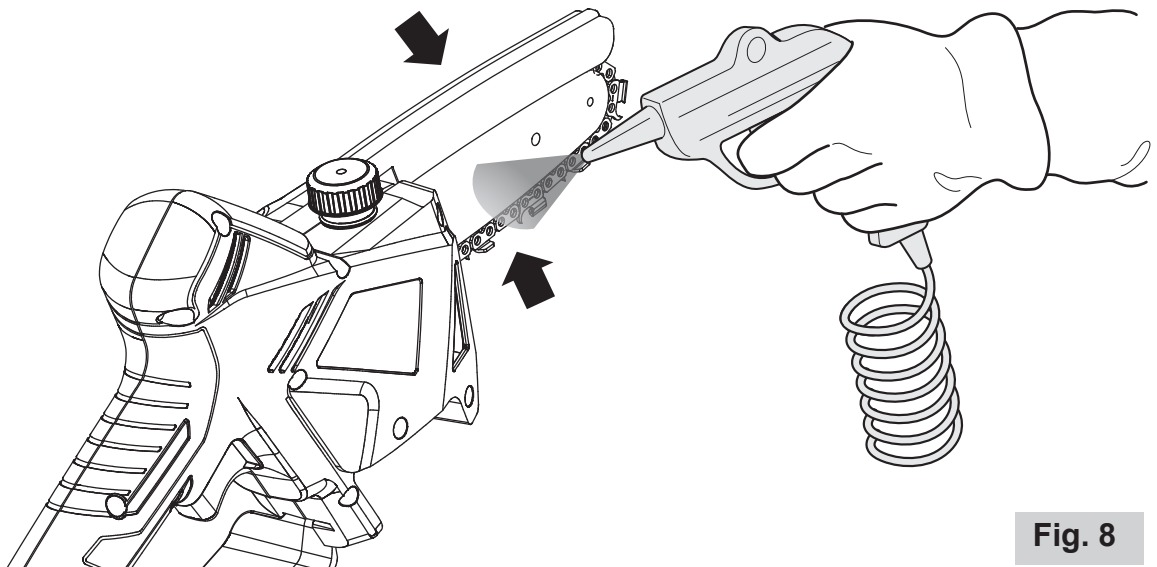

Fig. 8
- blow onto the pruner a jet of compressed air approximately **every 40 hours of work** in order to clean it from the chips of the cut (**fig. 8**).